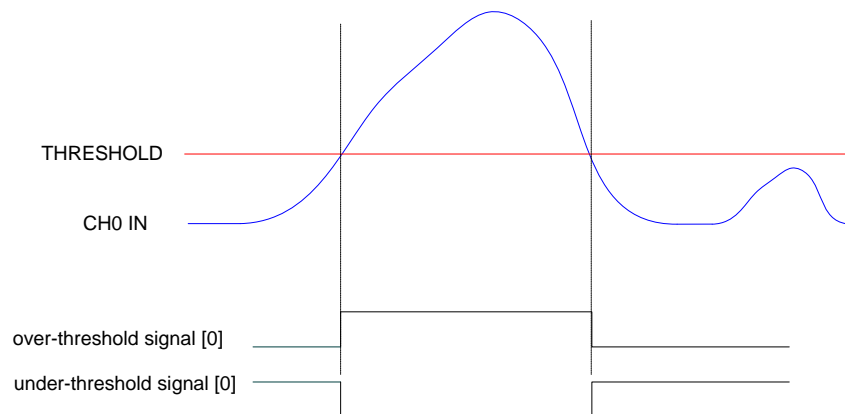

Fig. 8.14: Channel over/under threshold signal
- an *over/under-threshold signal* (see Fig. 8.14). This signal can be programmed to be active (i.e. "1") as long as the input pulse is over the threshold or under the threshold (depending on the trigger polarity bit at register address 0x8000).